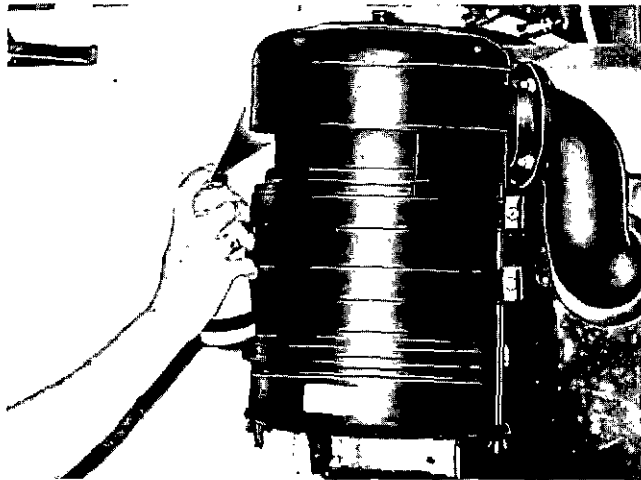

Fig. 1-6 (N11807) Ether spray application
1. Spray ether into air cleaner intake, Fig. 1-6, while second man cranks engine.